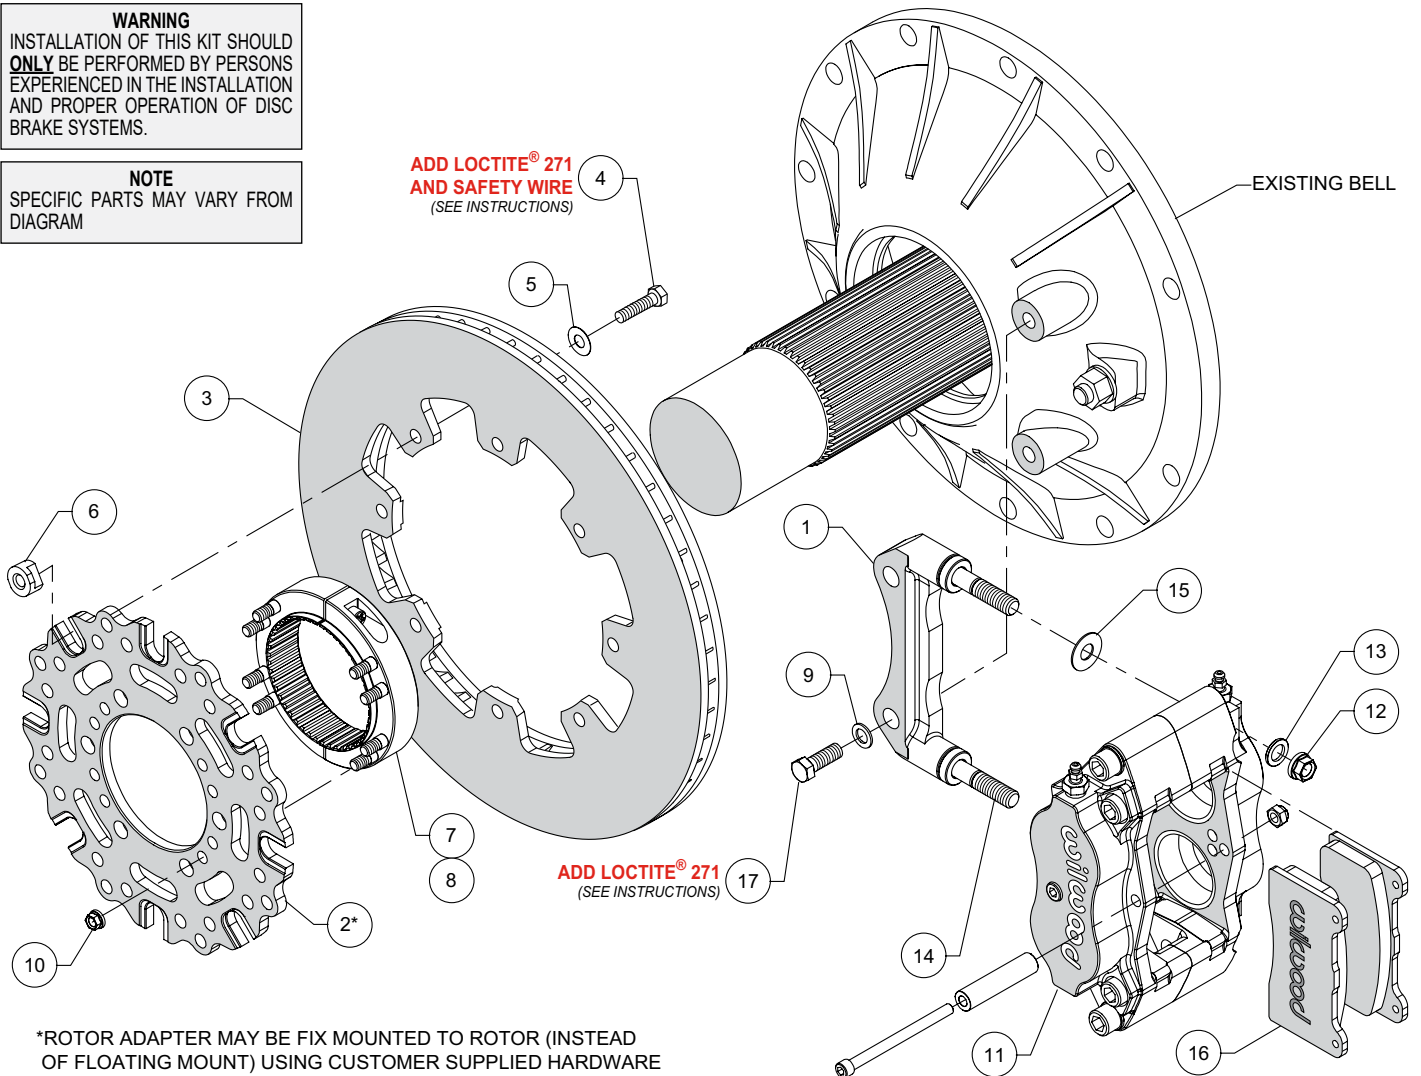

Figure 1. Typical Installation Configuration
• Orient the caliper mount bracket (1) as shown in Figure 1 and install using bolts (17) and washers (9). Temporarily tighten the mounting bolts. **NOTE:** The bracket must fit squarely against the mount bosses on the bell. Inspect for interference from casting irregularities, machining ridges, burrs, etc. Remove the bracket mounting bolts one at a time, apply red *Loctite*® 271 to the threads, and torque to 60 ft-lb.
• Orient the rotor adapter (2) and the rotor (3), as shown in Figure 1, and attach using bolts (4), washers (5), and t-nuts (6), Figure 1. Apply red *Loctite*® 271 to the bolt threads before installing. Finger tighten. After all t-nuts have been installed, torque bolts to 220 in-lbs using a criss-cross pattern. Please refer to Wilwood's data sheet DS-669 (available at [www.wilwood.com/Pdf/DataSheets/ds669.pdf](http://www.wilwood.com/Pdf/DataSheets/ds669.pdf)) for complete t-nut bolt kit installation instructions. **NOTE:** Rotor adapter may be fix mounted to rotor (instead of floating mount) using customer supplied hardware.
- Orient the axle clamp assembly (7 and 8, pre-assembled) as shown in Figure 1 and install onto the rotor adapter (2) using nuts (10). Tighten nuts part way while still allowing clamp-to-rotor movement. The nuts will be torqued later, after aligning the rotor. **NOTE:** *The axle clamp should be positioned inside of the rotor as shown in Figure 1, not offset, or outside of the rotor adapter.*
- Initially place one .030" thick shim (15) on each stud (14) as shown in Figure 1. Mount the caliper (11) onto the bracket (1) using lock nuts (12) and washers (13), Figure 1. Temporarily tighten the lock nuts (12) and view the rotor through the top opening of the caliper. The rotor should be centered in the caliper. If not, slide the rotor/adaptor assembly on the axle until the rotor is centered in the caliper. Tighten the clamp nuts first, locking the clamp to the axle. Torque nuts (10) to 140 **in-lbs**.
- Remove the caliper center bridge pad retainer bolt, nut, and tube from the caliper. Insert the brake pads (16) into the caliper, with the friction material facing the rotor. Check that the top of the brake pad is flush with the outside diameter of the rotor. If not, adjust by adding or subtracting shims (15) between the caliper and the bracket. After the caliper pad height is set, torque the caliper lock nuts (12) to 30 ft-lb. Secure the brake pads in place with the center bridge pad retainer tube, bolt, and locknut. The locknut should be snug without play in the bolt or tube. Be cautious not to over tighten.